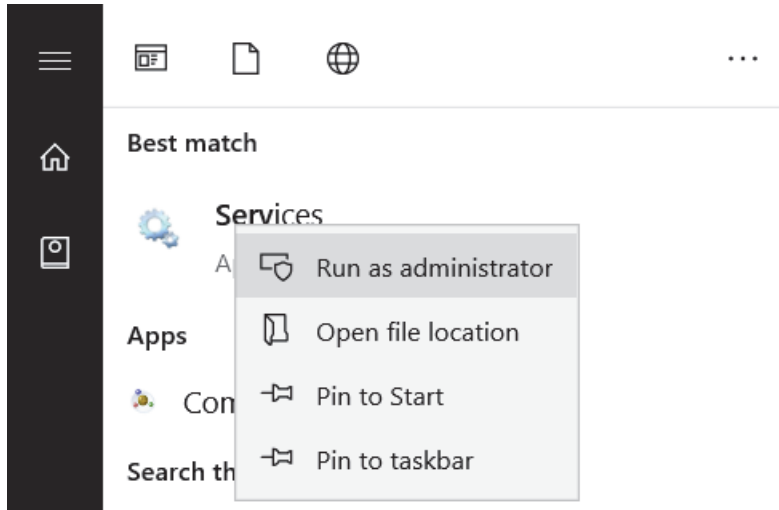

Figure 9 - Launching the Services Window
- b. Right-click **Services** and then click **Run as administrator**. See **Figure 9**.